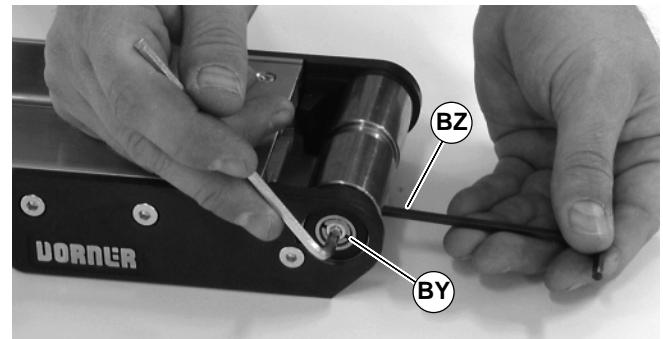

Figure 55
3. On both sides of pulley, use a 4mm hex-key wrench to tighten pulley taper screw (BY of Figure 55) to 35 in-lb (4 Nm). Steady pulley with second hex-key wrench (BZ) inserted into pulley hole.